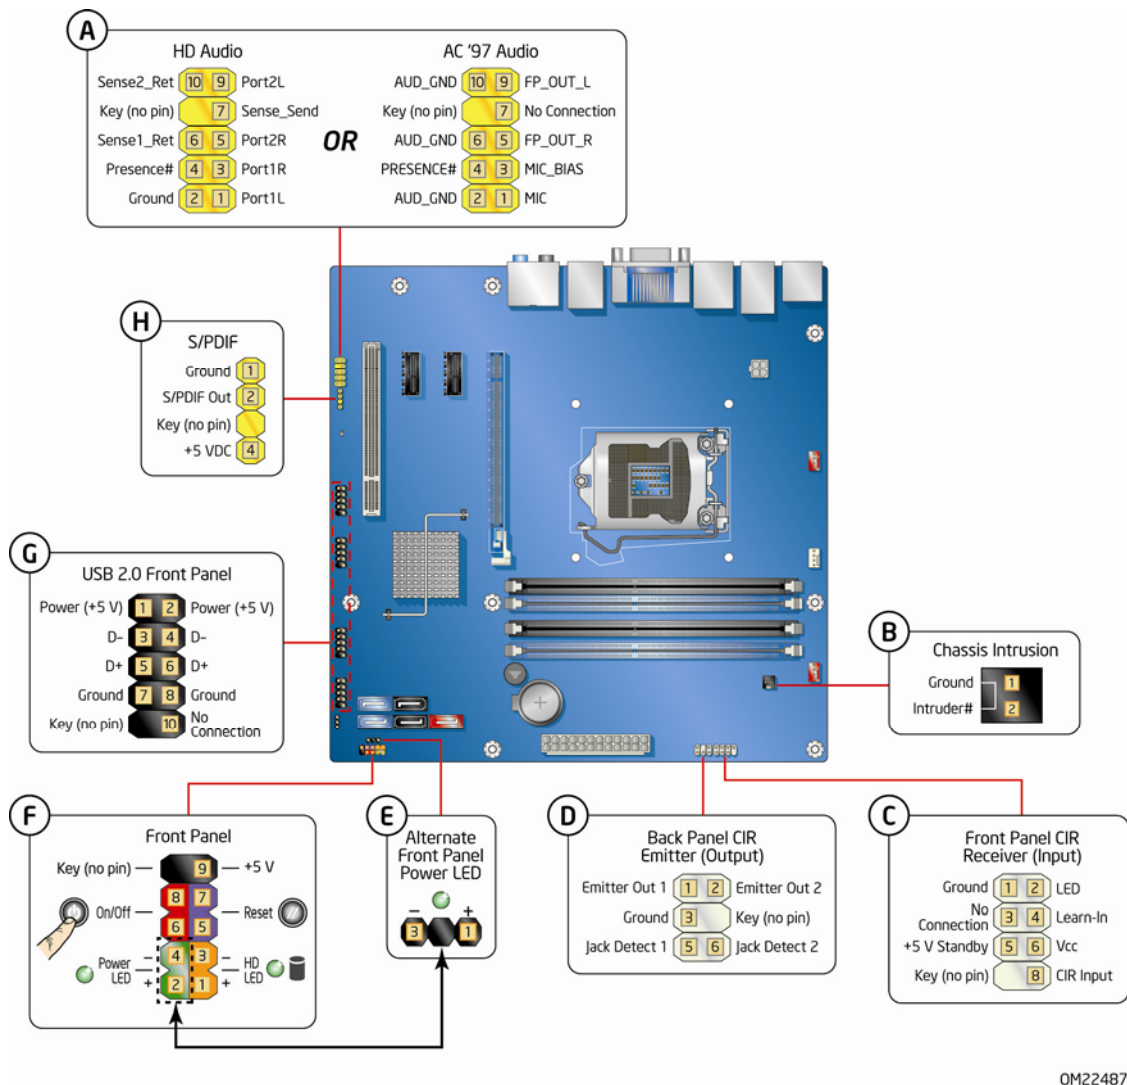

Figure 20. Internal Headers
Before connecting cables to any of the internal headers, observe the precautions in “Before You Begin” on page 27. Figure 20 shows the location of the internal headers and connectors on Intel Desktop Board DH67BL.
The front panel audio header shown in Figure 20, A supports both Intel High Definition (HD) Audio and AC '97 Audio.